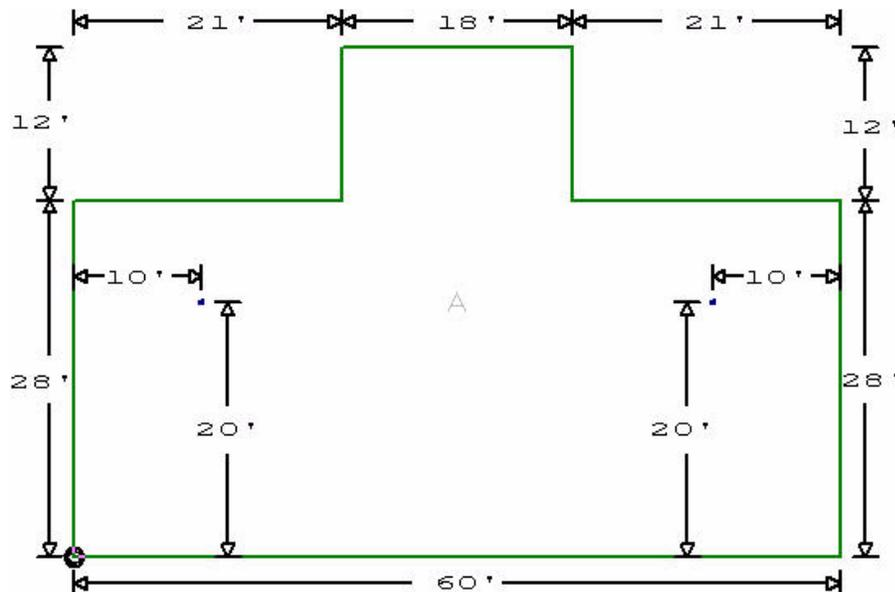

Figure 5-1 Roof Section A
First, you need to open a new project and draw a roof section. The roof in this lesson is a simple rectangular roof with a protruding section at the top, as shown in Figure 5-1.
3. Draw the roof pictured in Figure 5-1, using the U, R, D, and Q keys.
5. Add two drains to the roof, as shown in Figure 5-1.